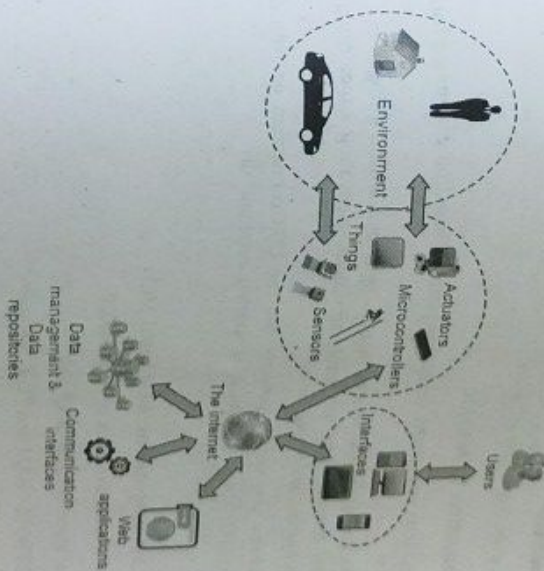

Fig. 5.1.3 : Working of IoT
- Fig. 5.1.3 shows working of IoT.